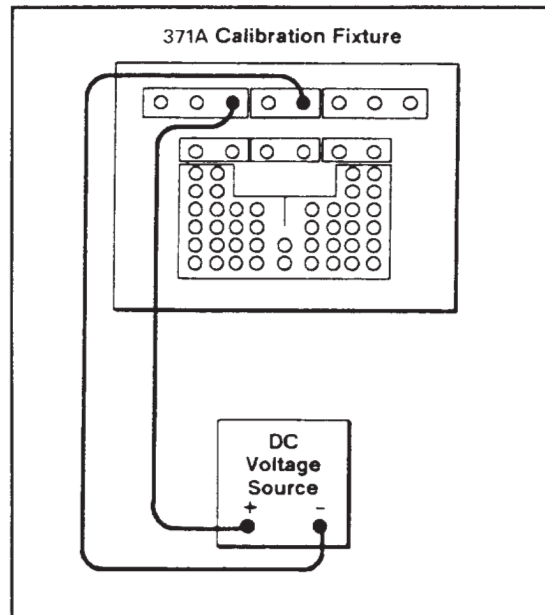

Figure 4-6. Calibrating CURSOR readout for checking accuracy of collector current measurement.
1. Connect long patch cords between the Calibration Fixture and the voltage source as shown in Figure 4-6.